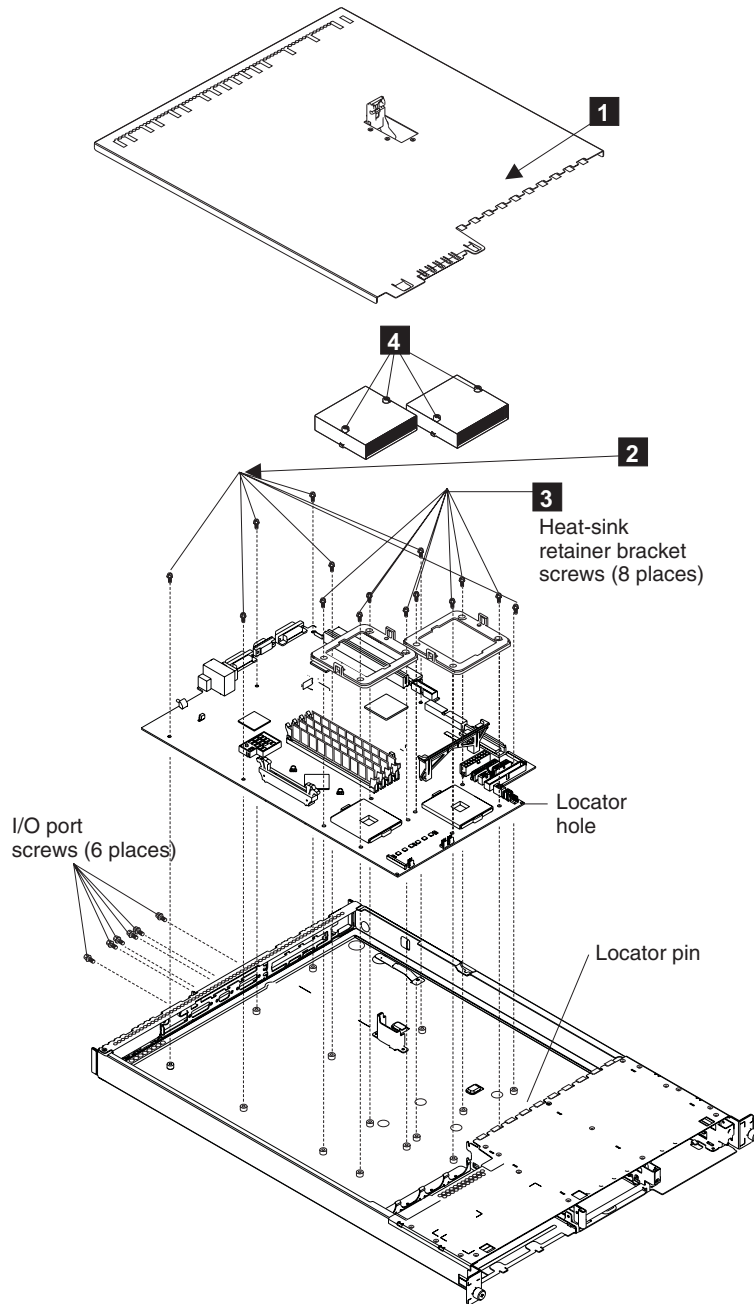

Figure 207. SAN Volume Controller 2145-4F2 system board
3. Remove the top cover from the SAN Volume Controller (1 in Figure 207).
8. Unscrew the heat sink captive screws (**4** in Figure 207 on page 221).
10. Remove the screws from each of the heat sink retainer brackets (**3** in Figure 207 on page 221).
13. Remove the seven screws (**2** in Figure 207 on page 221).